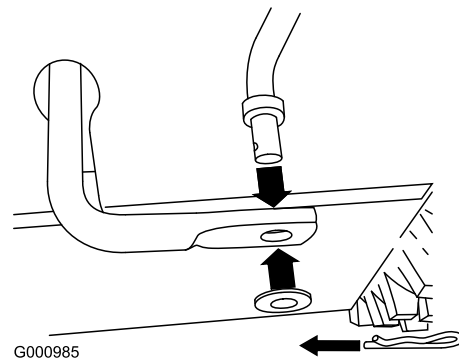

Figure 11
1. Remove the hairpin cotter and washer from the lower end of the speed control rod and insert the lower end of the rod into the lower link arm so that the bent end of the speed control rod faces rearward (Figure 11).